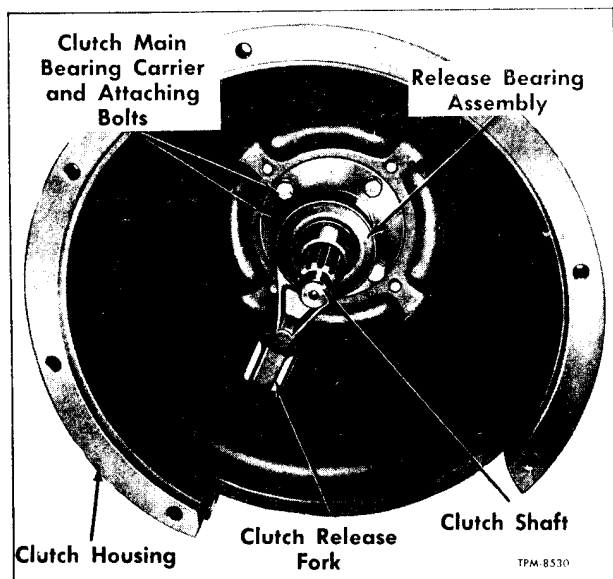

Figure 65—Clutch Fork and Drive Shaft Installed in Clutch Housing
1. Using a suitable wrench, turn ball stud (9) and lock washer (10) from clutch housing (fig. 65). Remove stud with clutch release fork (7). Slide release bearing (11) from retainer (21). Remove retainer spring (8) holding ball stud in fork.
2. Remove four bolts (15) and lock washers (16) which attach main bearing carrier and housing mounting bracket to clutch housing. Remove carrier and bracket.
3. Remove four bolts (23) and lock washer (22) attaching main bearing retainer (21) to main bearing carrier. Remove retainer and carrier from clutch shaft (20).
4. Using snap ring pliers, remove bearing retainer ring (18) from clutch shaft. Using arbor press, force main bearing assembly (19) from shaft.
7. Install clutch release fork (7) to clutch housing, using new external lock washer (10) on ball stud. Tighten stud firmly. Figure 65 shows assembly built up.